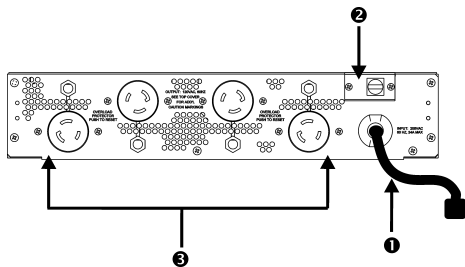
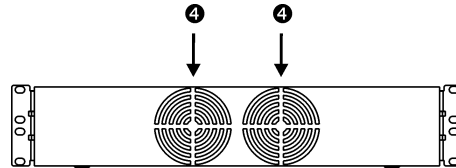

Figure 6: SUTF3 / SYTF3 / SYTF3J
Figure 7: SUTF3 / SYTF2 / SYTF2J / SYTF3 / SYTF3J / SURT005 / SURT006
**Input Wiring 1:** Provides access to wiring terminal blocks for hard wiring the input (see Figure 6). Provided with an input cord for use in many applications (see Figure 7).